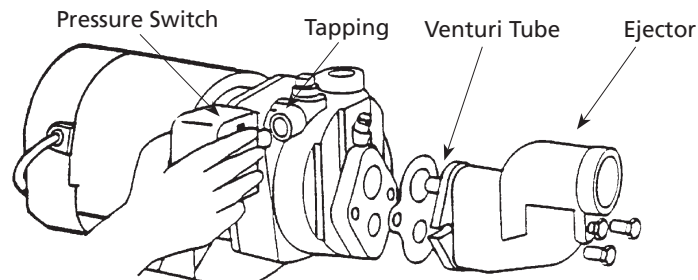

Figure 1
1. Attach ejector to face of pump with two bolts and gasket provided. The venturi tube inserts into the top tapping on the face of the pump (See Figure 1).
2. Remove 1/4" plug from side of pump. Apply two wraps of Teflon tape provided to threads of the pressure switch and screw into tapping as shown in Figure 1. Refer to Electrical section for pressure switch wiring.